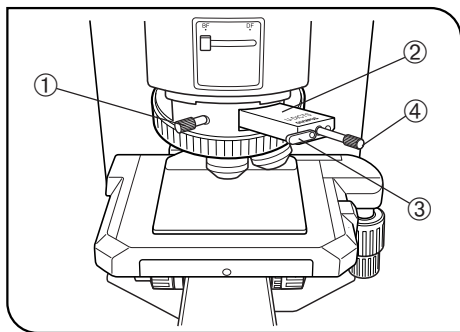

Fig. 12
(Fig. 12)
1. Adjust the background contrast by turning the slider movement knob ④ on the DIC slider as described below. (Fig. 12)
#### 4 Switching to Brightfield/Darkfield Observation (Fig. 12)